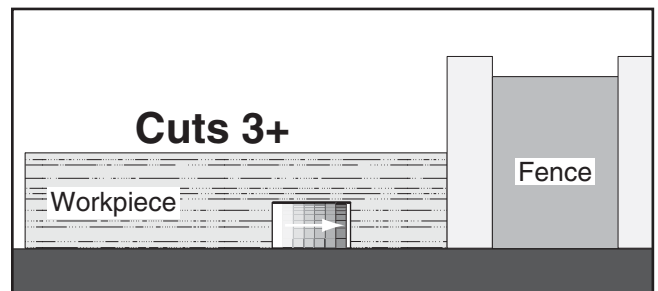

Figure 90. Additional single blade dado cuts.
9. Make additional cuts (see **Figure 90**) in the center of the dado to clear out the necessary material. The dado is complete when the channel is completely cleared out.